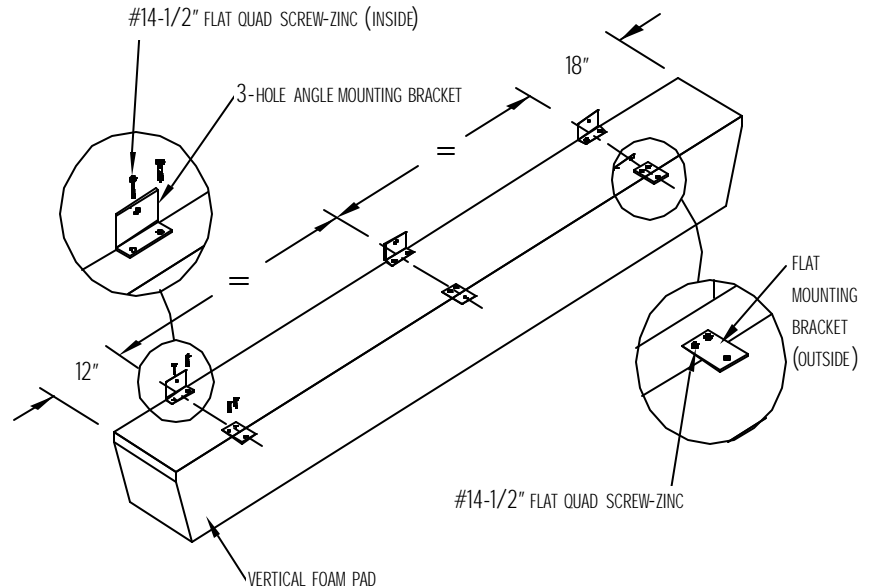

FIG. 2
- Mark and drill holes at centre as well as 12" from bottom end and 18" from the top end of the frame (Fig. 2).
- Use information from Step. 2 and Fig.2, determine position of vertical frame's bottom edges.
NOTE: FINAL LOCATION OF THE BRACKET TO BE DETERMINED BY THE INSTALLER TO SUIT SPACING OF THE MORTAR JOINTS OR OTHER WALL CONFIGURATIONS. COMMON LOCATION OF BRACKETS IS ONE AT CENTRE AND 12" FROM BOTTOM AND 18" FROM TOP (FIG.2).